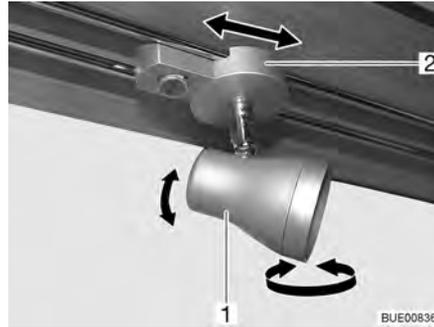

Fig. 50 Spotlight
- Grasp the housing (Fig. 50,1) and turn it.
- Grasp the holder (Fig. 50,2).